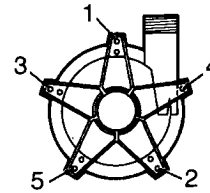

Figure 2
14. Align the mounting holes in the barrier assembly/column housing adapter and insert the 5 plastic screws (item 23). Hand-tighten using pattern shown in Figure 2.